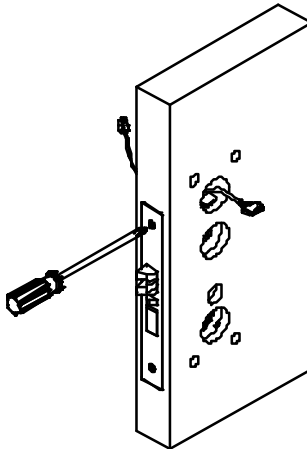

Figure 10
10) Tighten 2 cross recess countersunk head screws in. Show as Figure 10.